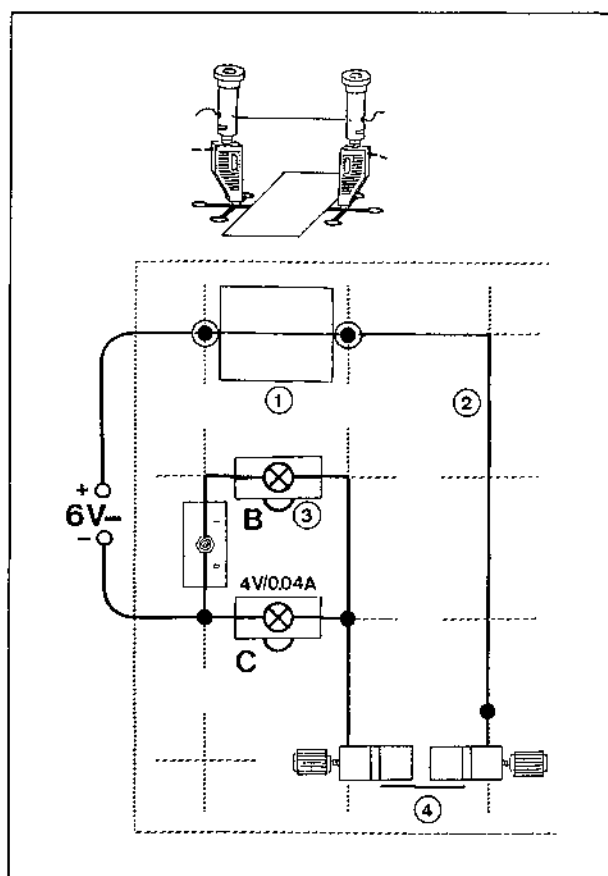

Fig. 4 Experiment setup:
11. Construct a circuit as shown in fig. 4. The toggle switch is open. (Position 0).